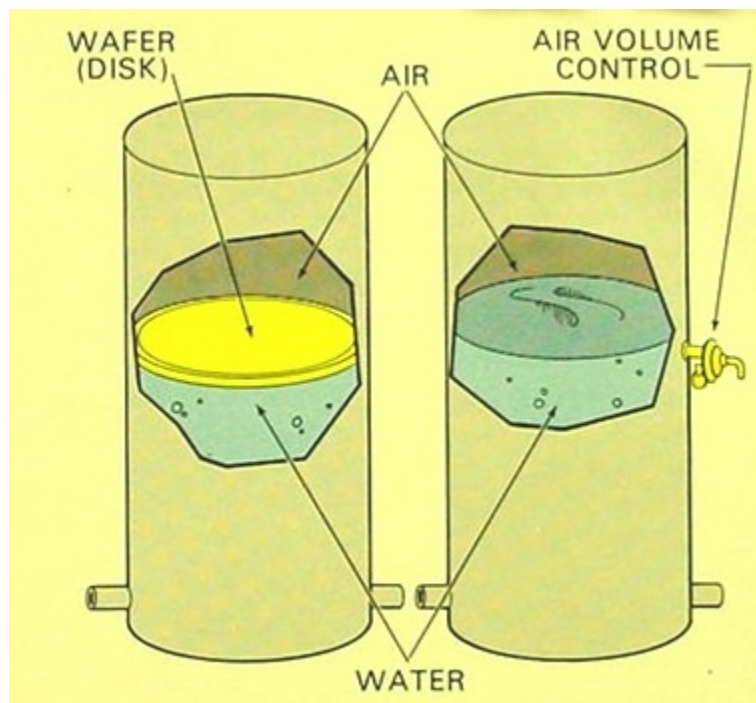

Figure 24. Standard pressure tanks
Traditional pressure tanks of older designs lacked a bladder or diaphragm, resulting in direct contact between air and water within the tank (Figure 24). This direct contact causes a gradual absorption of air molecules by the water over time, a phenomenon known as waterlogging. Waterlogging leads to increased pump cycling, with more frequent cut-ins and cut-outs. Although some tanks incorporated a plastic disk to separate the air and water, its effectiveness varied. Pressure tanks with air-water contact necessitate periodic air injections to maintain the required air volume. Various air-volume control mechanisms are available, which introduce fresh air into the system during pump operation. Additionally, such tanks have the drawback of being incapable of being pre-charged with compressed air. Consequently, they require larger tank sizes compared to pre-charged diaphragm or bladder style tanks to achieve an equivalent reserve of usable water, also known as drawdown capacity.
- Figure 24. “Standard pressure tanks” – The source for this image is unknown. It is being used for non-commercial, educational purposes. To receive credit for this image, please reach out to the publisher.